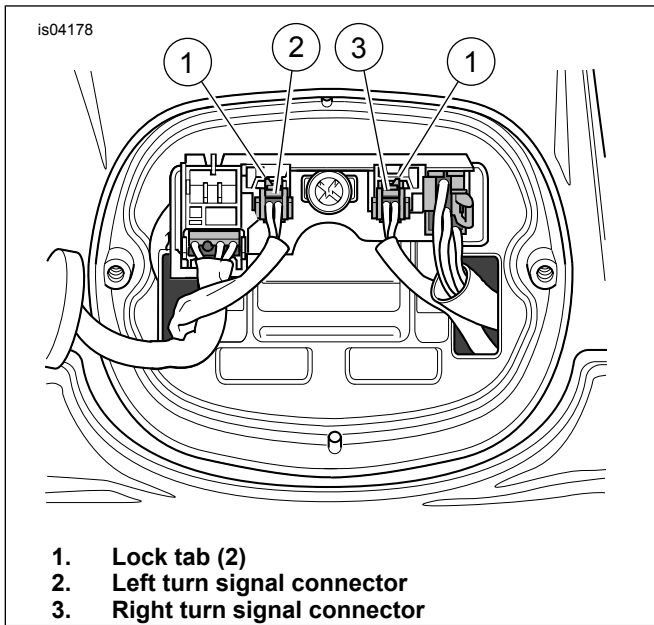

Figure 2. Turn Signal Connections
1. See Figure 2. Depress the lock tabs (1) on the left (2) and right (3) two-way turn signal socket housings ([18B] and [19B]) to disconnect them from the rear lighting circuit board.